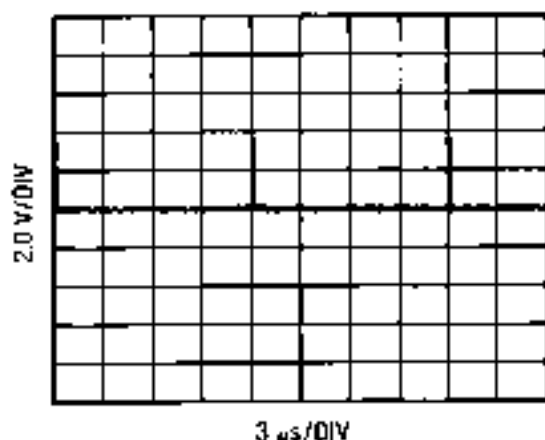

Figure 8-18. A2A5TP3, A2A3S1 Test Switch HIGH
10. Press PRESET (3 GHz) and connect the oscilloscope to A2A5TP3. The waveform should be as shown in Figure 8-18.